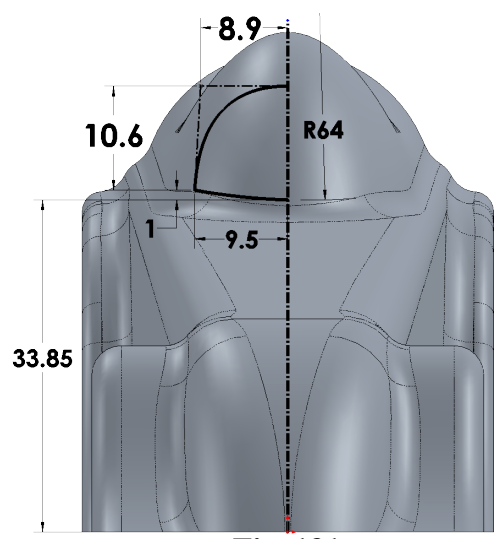

Fig. 131
Step 13. Click **Smart Dimension**  (S) on the Sketch toolbar.
Step 14. Add dimensions, **Fig. 131**.